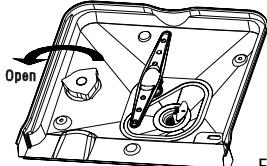

Fig. 2
2. Open the container closing (Fig. 2).